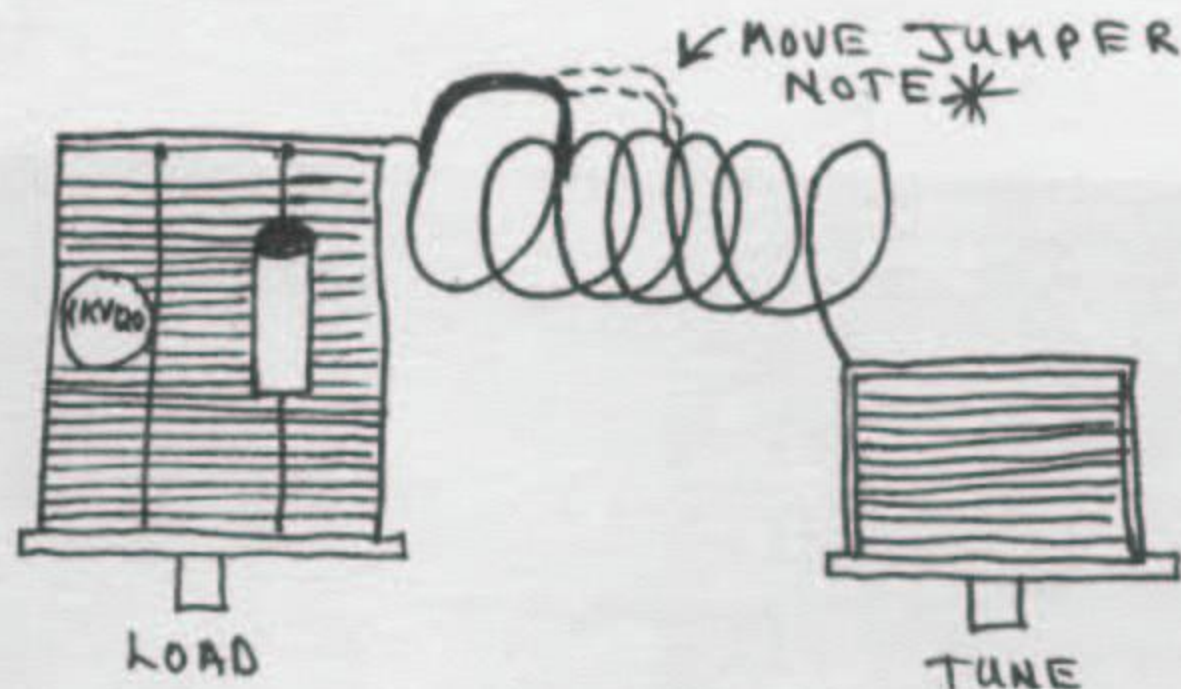

Fig. 3
3. In between the Tune and Load controls is the Output Coil. If you are facing the unit, from the left end of the coil, there is a piece of silver wire soldered to the end of the coil and to the third turn (counting from left to right). Unsolder it at the third turn and resolder it to the fifth turn (Fig. 3).